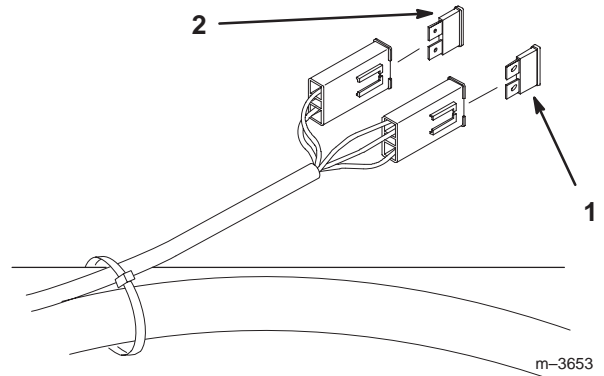

Figure 50
1. Raise the seat to gain access to fuse holder (Fig. 50).
2. To replace fuses pull out on the fuse to remove it (Fig. 50).